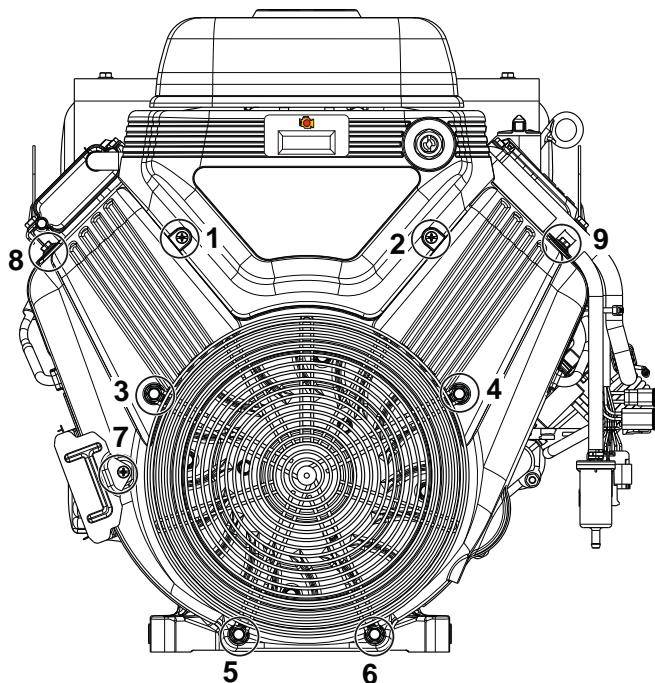

Figure 5-15 Remove Access Cover/Blower Housing.
1. Remove two Phillips screws (1-2) to release access cover from blower housing. See Figure 5-15.
5. Remove hex flange screw (7) to release oil cooler bracket from blower housing.